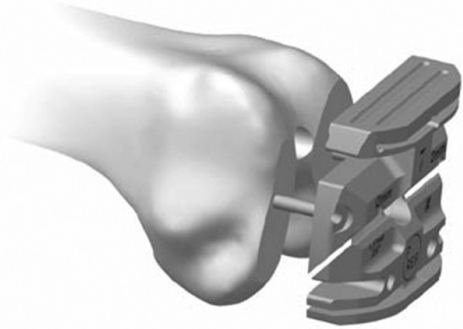

Fig. 9
- Insert the *Persona* Posterior Referencing 4-in-1 Cut Guide (Fig.9).